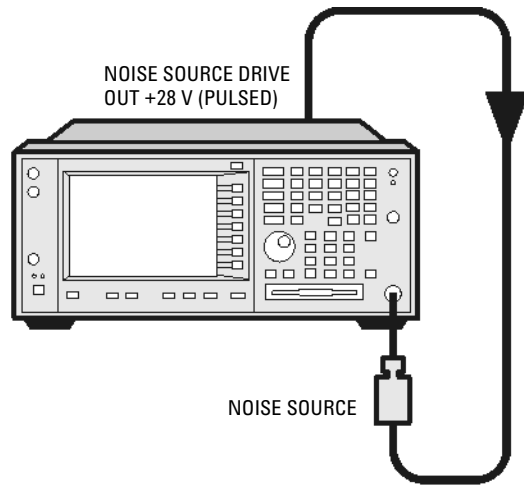

Figure 15 Calibration Setup with Normal Noise Source
- 13 Connect the noise source input to the Noise Source Drive Out +28 V Pulsed port on the front panel of the N8201A using the appropriate cable. Connect the noise source output to the RF Input as shown in Figure 15.